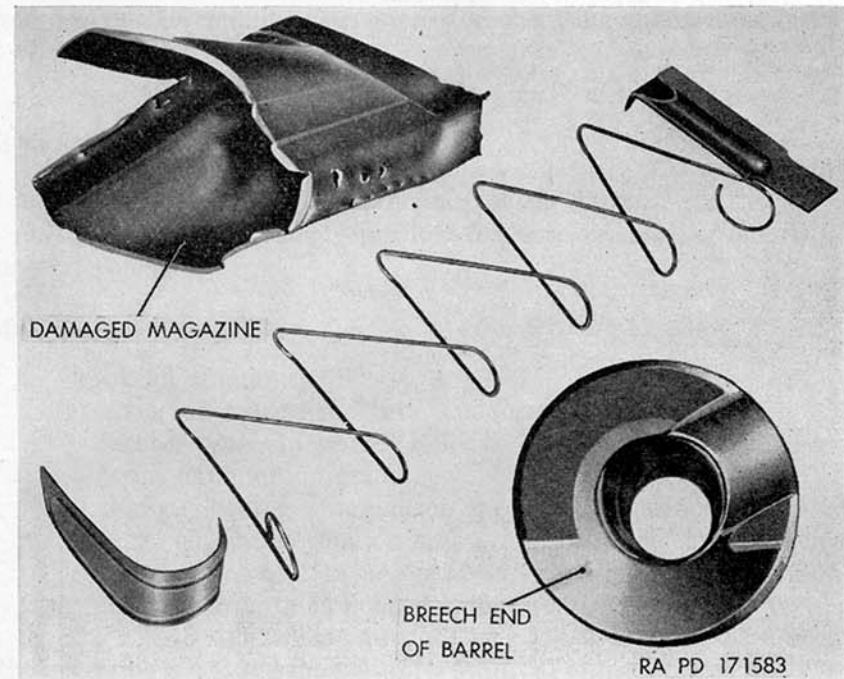

Figure 19. Magazine parts and barrel of Browning automatic rifle damaged by defective cartridge.
a. *Cartridge With Excessive Powder Charge*. Figure 19 illustrates damage to a cal..30 Browning automatic rifle M1918A2 caused by a defective cartridge that developed excessive pressure. The abnormal pressure stretched the rear end of the chamber beyond the elastic